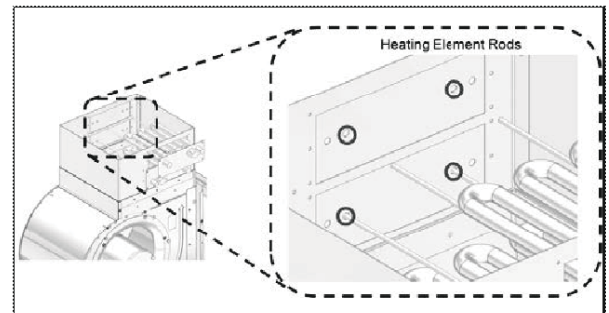

Fig. 7 – Heating Element Rods
6. Remove two (2) wire ties as applicable on element kits (15 & 20 kw).
7. Insert heating element(s) into collar. Heating element rods must be inserted into inner most holes as shown in Fig. 7. This will support and prevent vibration of heater elements.